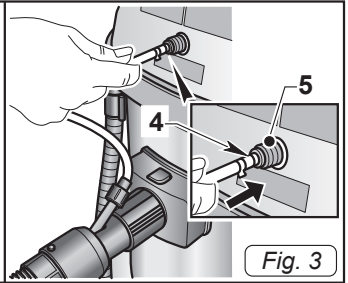

Fig. 3
- Connect the (4 Fig. 3) detergent delivery hose to the quick coupling (5 Fig. 3); to release it push the quick coupling (5 Fig. 3) inwards.